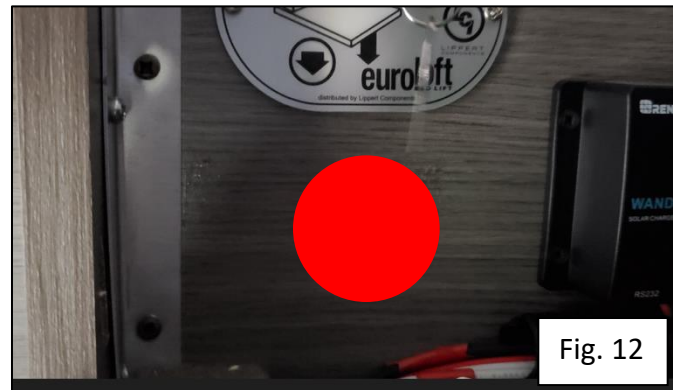

Fig. 12
- A. Using a drill with 1 inch spade bit, drill a 1 inch hole below the bed switch. (Figure 12)